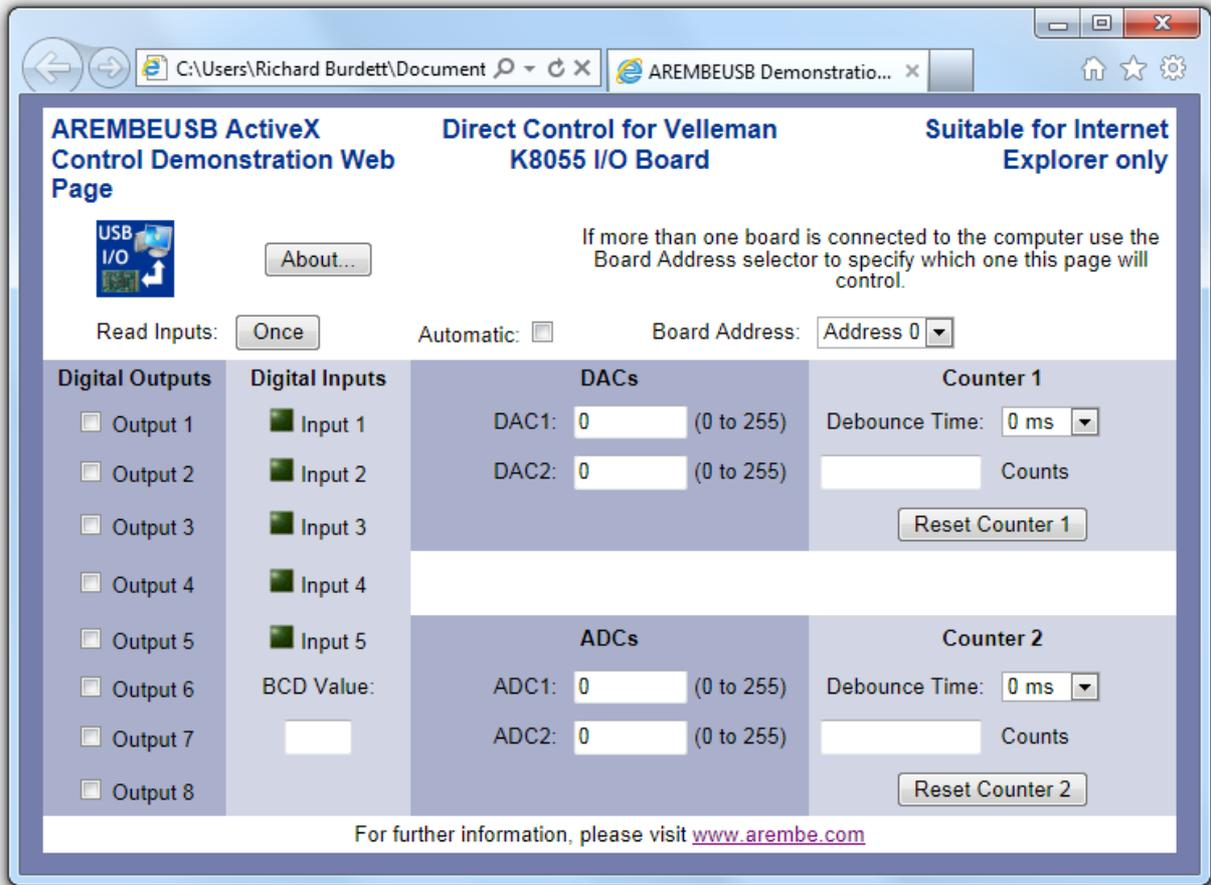

Figure 2-6, Web Page Demo Dialog
- 6) Click the **OK** button to close the dialog and the demonstration dialog, shown in figure 2-6, will be displayed.